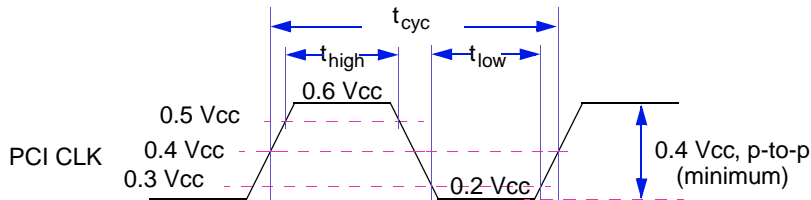

Figure 9. PCI CLK Waveform
The MPC5200B is always the source of the PCI CLK. The clock waveform must be delivered to each 33 MHz or 66 MHz PCI component in the system. Figure 9 shows the clock waveform and required measurement points for 3.3 V signaling environments. Table 22 summarizes the clock specifications.
- Rise and fall times are specified in terms of the edge rate measured in V/ns. This slew rate must be met across the minimum peak-to-peak portion of the clock waveform as shown in Figure 9.